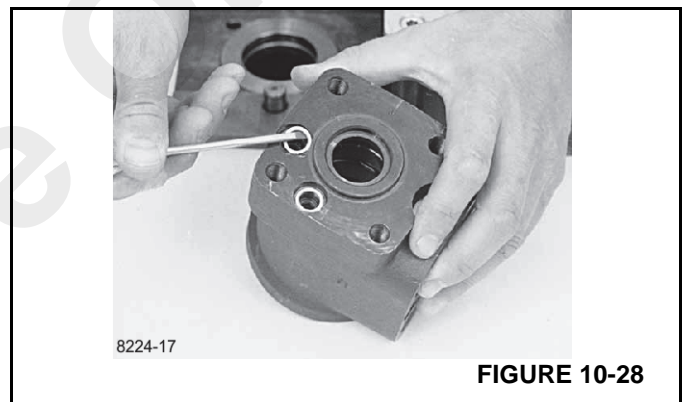

FIGURE 10-28
17. Remove seal washers (Figure 10-28).